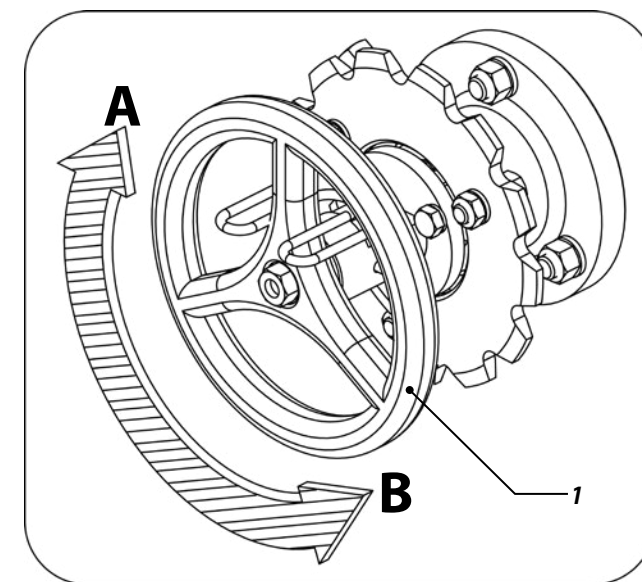

Figures 25
- Example:** To distribute 10 kg / ha seed of colonião grass spaced 170 mm, turn the steering wheel (1) to reach the number of 3.5 of the scale as detail "A". Figure 25.